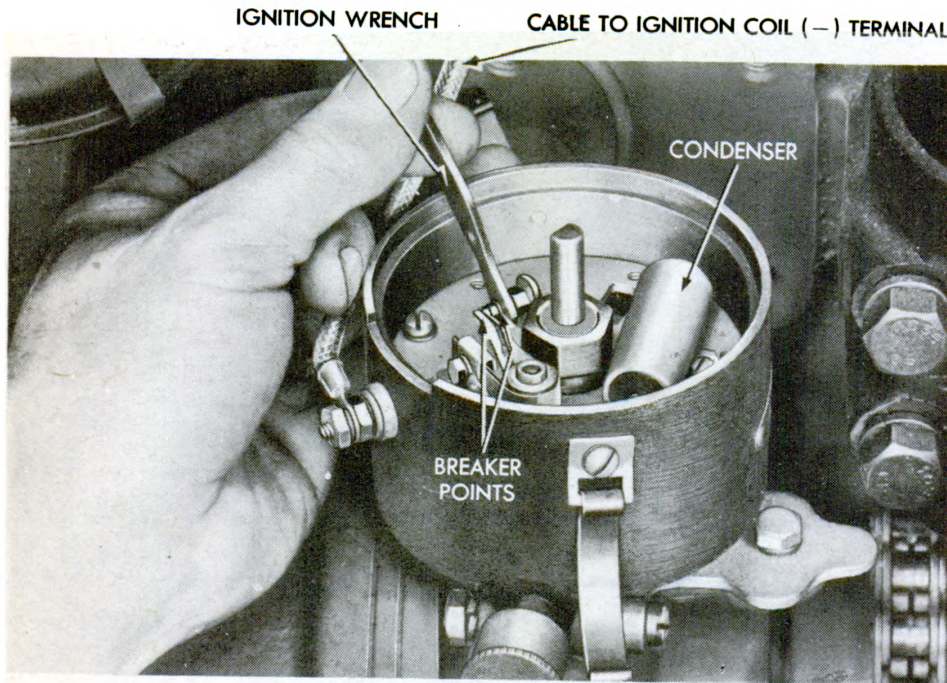

Figure 57 - Breaker Point Adjustment RA PD 78071
(3) **BREAKER POINTS.** If breaker points are in good condition, they will show a grayish color with no evidence of burning or pitting. Breaker points should be so alined as to make contact over the whole area of the contact surfaces. Breaker point gap should be 0.020 inch \pm 0.002 inch (fig. 56). If alinement is not correct, bend the stationary point bracket to secure proper alinement, and then adjust the gap (fig. 57), and tighten the lock nut. Breaker point pressure
(4) **CONDENSER.** The condenser (fig. 57) should be checked for broken wires, frayed insulation, and firm mounting. See that connections are clean and tight.